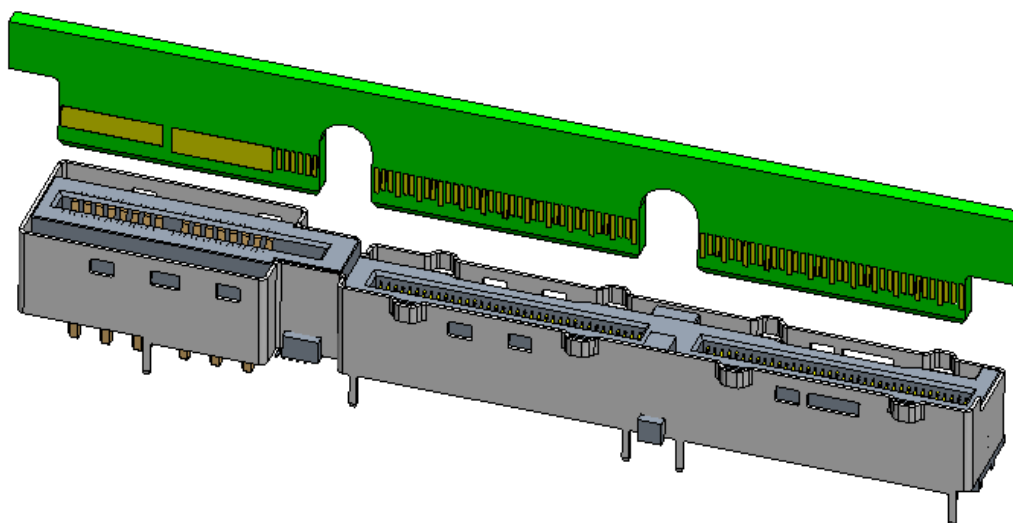

Figure 4-23 Combo x16+55A High Power Plus AIC Application
1. A single add-in card (AIC) can plug into the Vertical Combo DE x16+55A Power connector as shown in Figure 4-23.